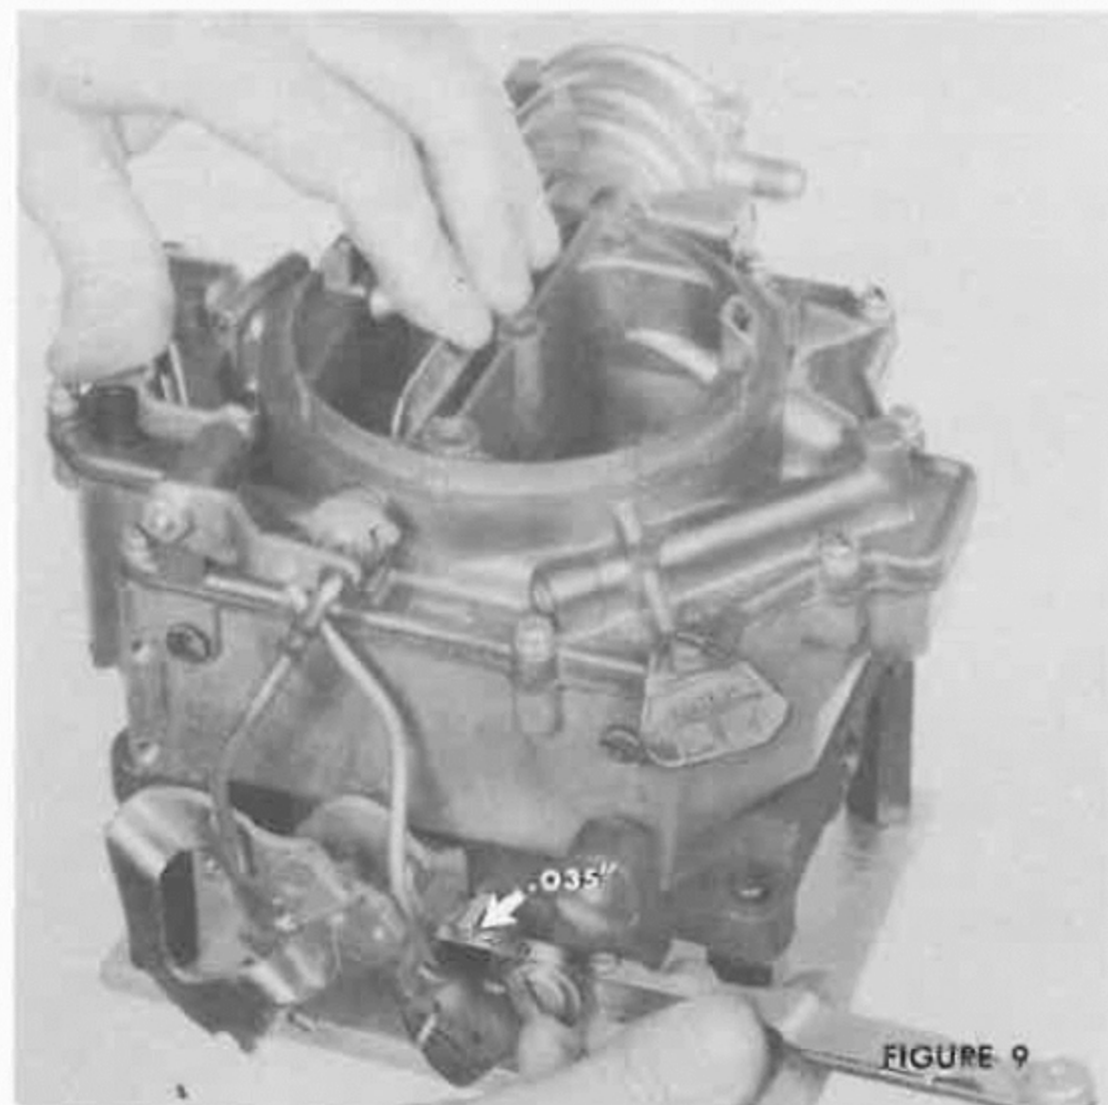

FIGURE 9
8. **Secondary Throttle Contour Adjustment:** With the choke valve wide open and the fast idle cam and secondary lock-out lever in position as shown in Fig. 9, there should be a clearance of .035" between the tang on the lever and the cam. Using tool J-6058, bend the lever tang to obtain this .035" clearance.